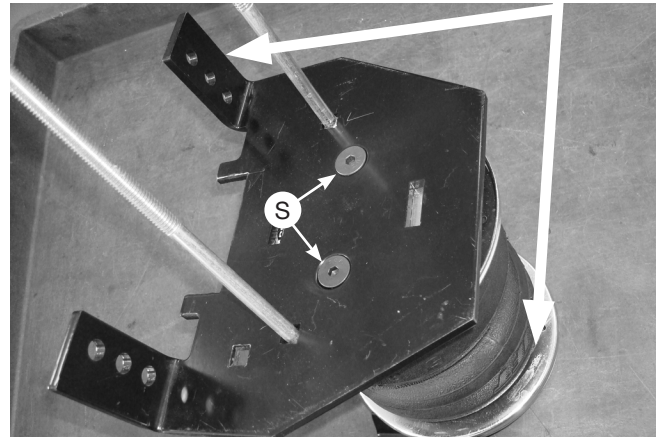

Fig. 12
5. Set the lower bracket main plate assemblies onto the air springs with the roll plates installed. Attach with the 3/8"-24 x 3/4" flat-head socket-cap screws (S) (Fig. 12). Torque the hardware to no more than 20 lb.-ft. (27Nm).